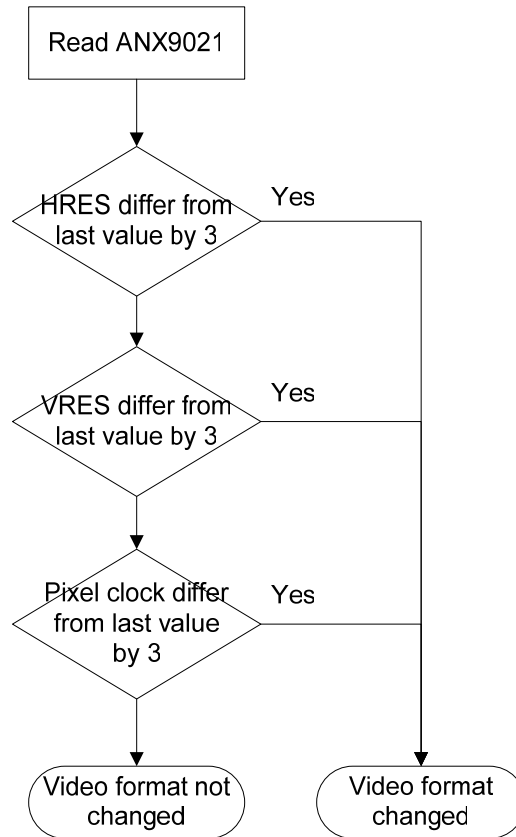

Figure 8 Video format change determination flow chart
42. Figure 8 shows the flow chart of the firmware used to determine video format change. In every video time slot, firmware will fetch the values of these five registers and compare them against the values recorded from the previous time slot. If the results differ by more than 3, video format has changed.